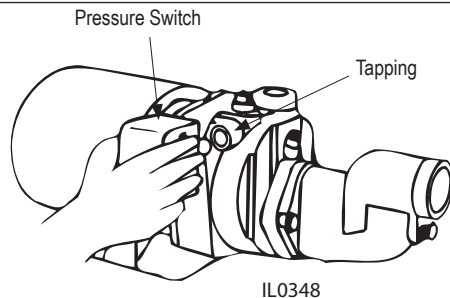

Figure 2
2. Screw pressure switch into tapping on side of pump as shown (Figure 2).
3. Remove pressure switch cover to expose wiring terminals. Insert motor lead wire through side hole of the pressure switch box and attach to the two (2) flag terminals marked "load". Leave switch cover off for later connection of the power supply line.